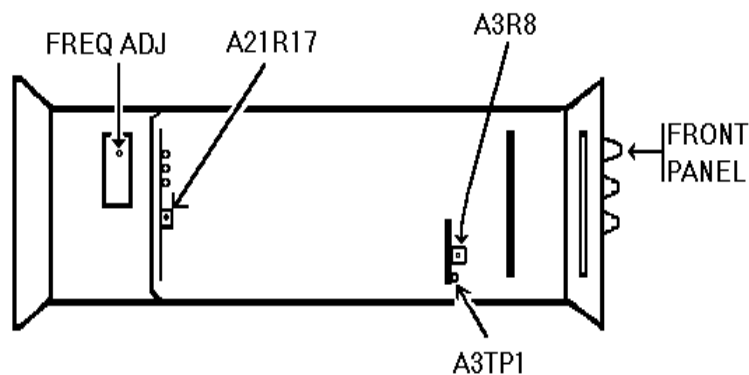

Figure 2. TD-1225A(V)1/U (Hewlett-Packard, Model 5342A/H14), TD-1225A(V)2/U (Hewlett-Packard, Model 5342A/H16), and Hewlett-Packard, Model 5343A - top view.
- (1) Connect time/frequency workstation **OUTPUT 1 MHz** to frequency difference meter **REF INPUT**.
- (2) Connect TI **10 MHz OUTPUT** (rear panel) to frequency difference meter **SIG INPUT**.
- (3) Adjust **FREQ ADJ** (fig. 2) for minimum difference indication on frequency difference meter. Record frequency difference meter indication.
- (1) Set function generator frequency to 1 MHz and amplitude to 200 mVp-p.
- (3) Decrease function generator amplitude while adjusting A3R8 (fig. 2) to a point where TI no longer counts (R).
- (4) Verify that sensitivity is at least 35 mVp-p.
b. Adjustments. Adjust A21R17 (fig. 2) for - 5.2 V dc indication on multimeter (R).